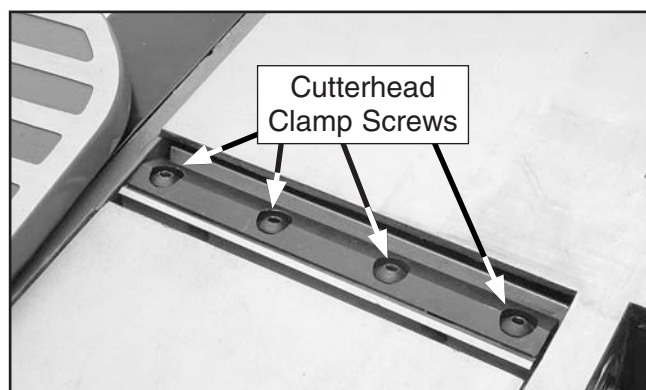

Figure 48. Cutterhead knife clamp screws.
3. Remove the four cutterhead clamp screws fastening the knife to cutterhead (see **Figure 48**). Carefully remove the knife and clamp from cutterhead.